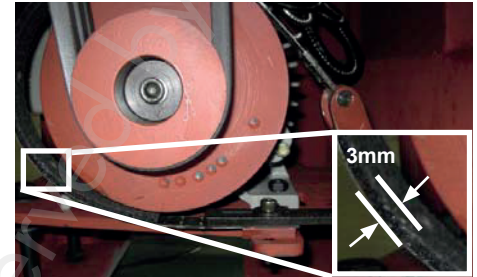

Fig. 91 Minimum brake band and lining thickness
4. Measure the remaining brake band lining at the thinnest point, which is usually at the 8 o'clock position, as shown in figure 91.